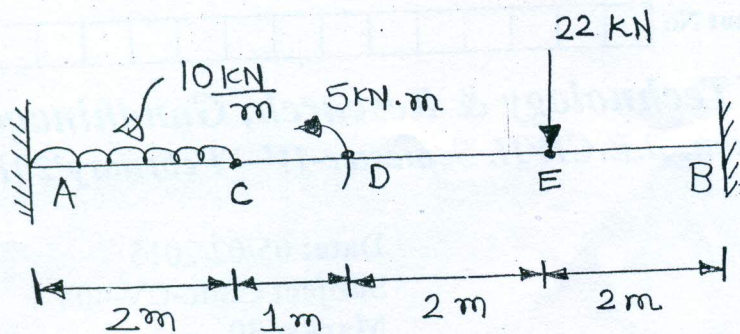

Fig.1
**Instructions:** (1) All questions are compulsory and Figures to the right indicate full marks.
(2) Indicate clearly, the options you attempt along with its respective question number.
(3) Do not Write anything on the Question Paper except your Enrollment Number.
- Q-1 [A] Draw quantitative I.L.D. for  $R_B$ ,  $R_C$  and  $M_B$  of Continuous beam shown in Fig.1. Calculate ordinates at 1 m interval. A Train load consisting of 7 Loads, 15 kN each spaced at 1 m interval traversing from left to right. Find out max. value of  $M_B$ . [7]
**Q.1(A)** Determine unknown reactions for a fixed beam as shown in **Fig.1.** 05